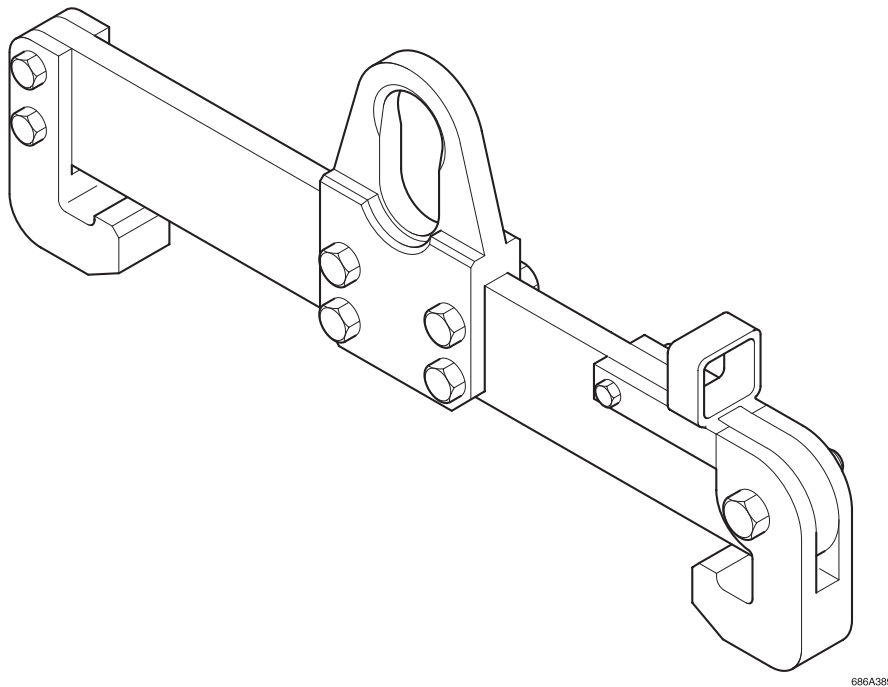

Figure 3. 28 Launch Beam Lifter
- 3.9.2.1 Wrap two slings around the ramp module passing one sling through each lifting point at each end of the end beam and looping the sling through its self so that it is secure. (See Figure 3. 29 (A)).